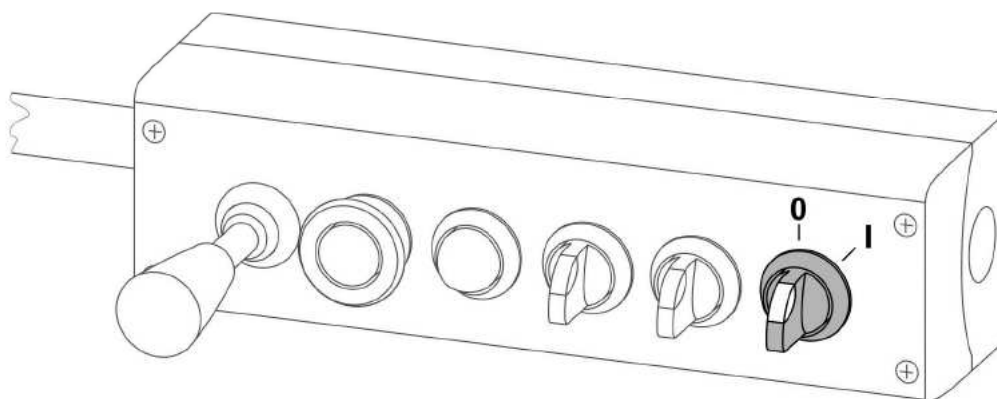

FIG. 4.9 Control panel and clearance lights main switch
(0) - control panel is switched off; (I) - control panel and the plough clearance lights are switched on
Control panel is protected against accidental use by the main switch (FIG. 4.9). If the switch is turned clockwise to position (I), the control panel power supply and clearance lights are on. If set in (I) "ON" position, the main switch is backlit. The main switch must be ON during plough operation and transport.